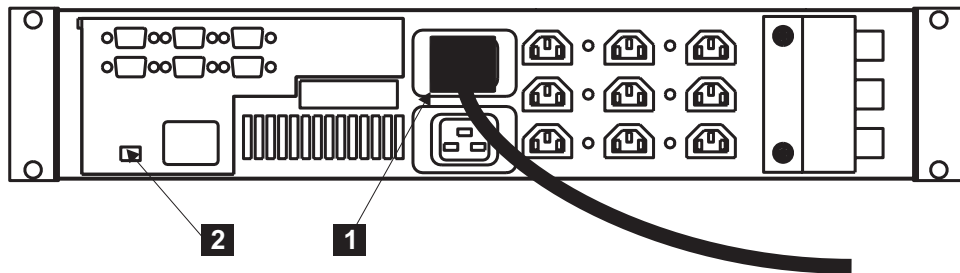

Figure 212. Installing the 2145 UPS power cable
9. At the back of the 2145 UPS, plug the 2145 UPS main power cable into the power socket, **1** in Figure 212 on page 472.